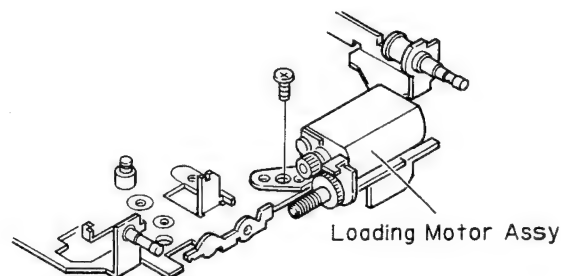

Fig. 15
12. Remove the screw, and then remove the loading motor assy. (Fig. 15)